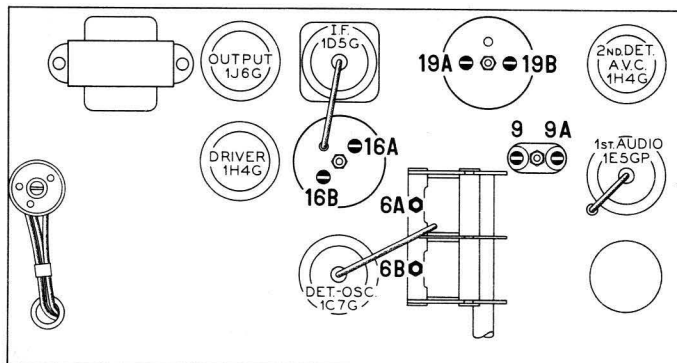

Fig. 2. Locations of Compensators—Top of Chassis
**EQUIPMENT REQUIRED:** (1) Signal Generator, having a fundamental frequency range covering the tuning and intermediate frequencies of the receiver. Philco Model, 077 A. C. operated, Signal Generator or Model 088 Battery operated, Signal Generator, which have the required frequency range are the correct instruments for this purpose; (2) Output meter, Philco Model 026 circuit tester incorporates a sensitive output meter and is recommended; (3) Philco Fibre Handle Screw Driver, part no. 27-7059 and Fibre Wrench, part no. 3164.
2. Holding the tuning condenser in this position, loosen the dial clamp; then turn the dial until the indicator is centered on the middle index line (See Fig. 2). Tighten clamp in this position.